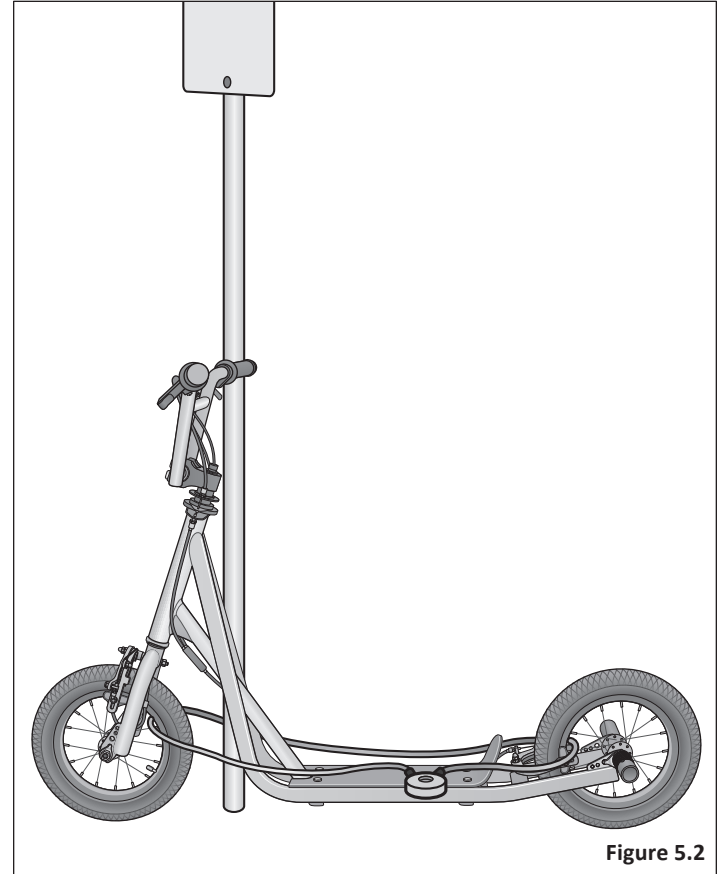

Figure 5.2
Hand operated brakes have a separate hand lever to operate front and rear brakes. Front hand brake levers are located on the left side of the handlebar, and rear hand brake levers are located on the right side of the handlebar. **Figure 5.2**
- Always lock your scooter to an immovable object if it is left unattended. **Figure 5.2**